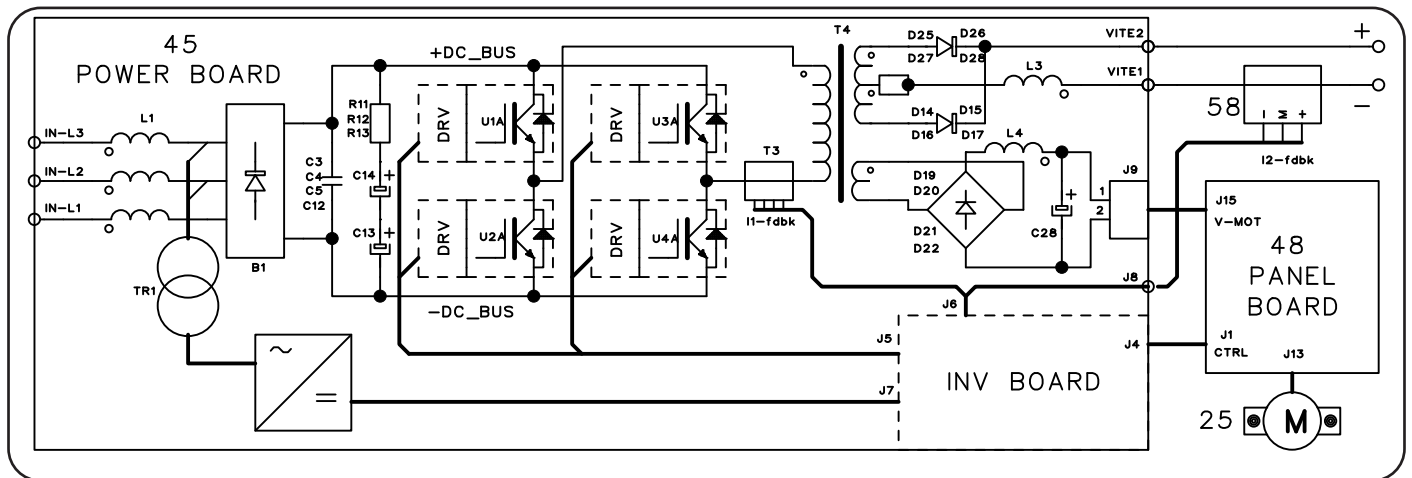

Fig. 2.3.2 (art. 324)
- art. 324, see Fig. 2.3.2 and Connectors map, par. 5.7:
- 220 Vac, supplied from a services transformer (62) intermediate socket, for the cooling unit power supply through socket L on the power source rear panel.